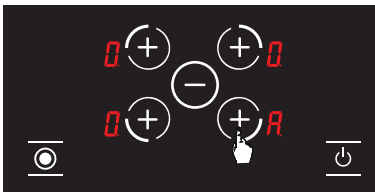

Figure 13
3. Then press the appropriate hotplate selection button again, the automatic heating function is activated and the display shows the symbol **R**. (See Fig. 13.)